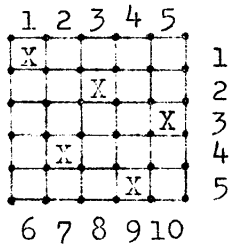

Fig.4
To find the draw-down we proceed as follows: we draw first a square with as many divisions in both vertical and horizontal direction as the number of harness-frames. For instance 5 by 5 for five frames (fig.4). Next we find out or figure out so called "move". This is the distance in the horizontal direction between two "ties" or black marks on our draw-down. The move for 5 frame satin is either 2 or 3. Only one of them in the same piece of weaving. Let us say that we decided to take 2 as our "move". We place the first "tie", or a black square, or a cross in the first column and the first row (fig.4). To find the next tie we add 2 (move) to the number of column (1) which makes 3. Therefore we place the second tie in the third column of the second row. Then we add 2 again and get 5 as the proper